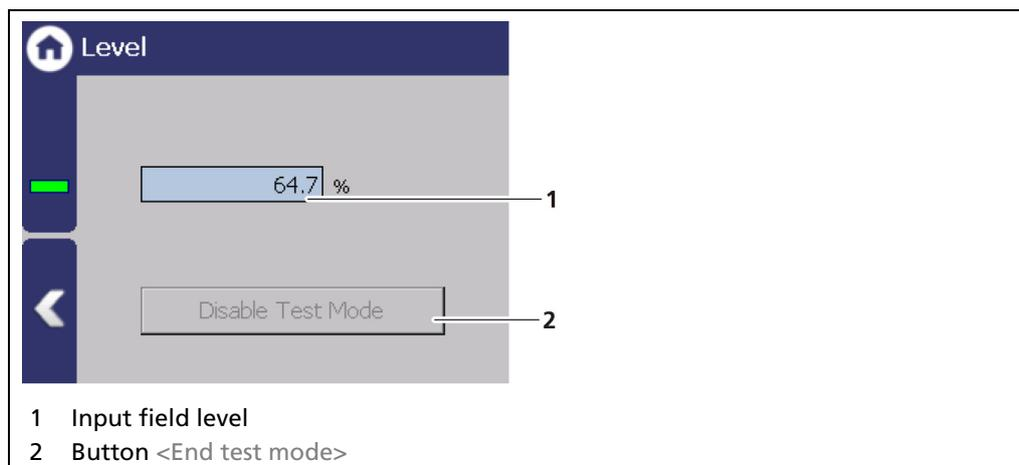

Fig. 130 Simulation Level
1. Click on the input field (Fig. 130, item 1) and enter a value for the simulation.
3. Click on the <Disable Test Mode> button (Fig. 130, item 2) to stop the simulation.